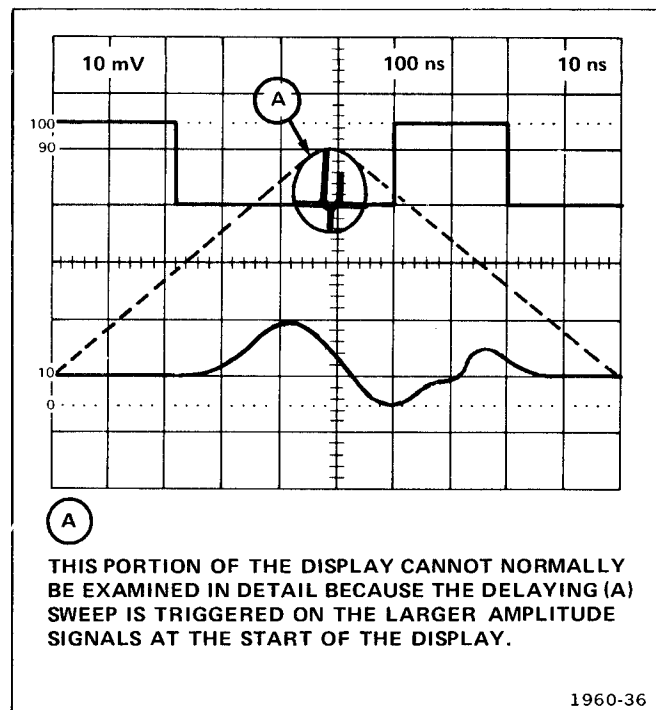

Fig. 1-10. Magnifying a selected segment of the delaying (A) sweep in the delay-time mode with mainframe alternate or chopped horizontal operation.
5. Use the following procedure to magnify a selected segment of the delaying (A) sweep waveform and determine apparent magnification in the delay-time mode.
- b. Set the appropriate triggering, position, deflection-factor, and sweep-rate controls for the desired dual-trace display. See the example in Fig. 1-10.
c. Turn the DELAY TIME control to position the intensified zone to the portion of the delaying (A) sweep waveform to be magnified.
d. Set the delayed (B) sweep unit sweep rate to select the desired duration of the magnified display as indicated by the length of the intensified zone.
e. Observe the magnified display on the delayed (B) sweep. See Fig. 1-10.
f. Determine apparent magnification by dividing the 7B85 TIME/DIV setting by the delayed (B) sweep unit sweep-rate setting.
Example: The apparent magnification of the delayed (B) sweep shown in Fig. 1-10 with a 7B85 TIME/DIV setting of .1 ms and a delayed (B) sweep unit sweep-rate setting of 1 μ s is: